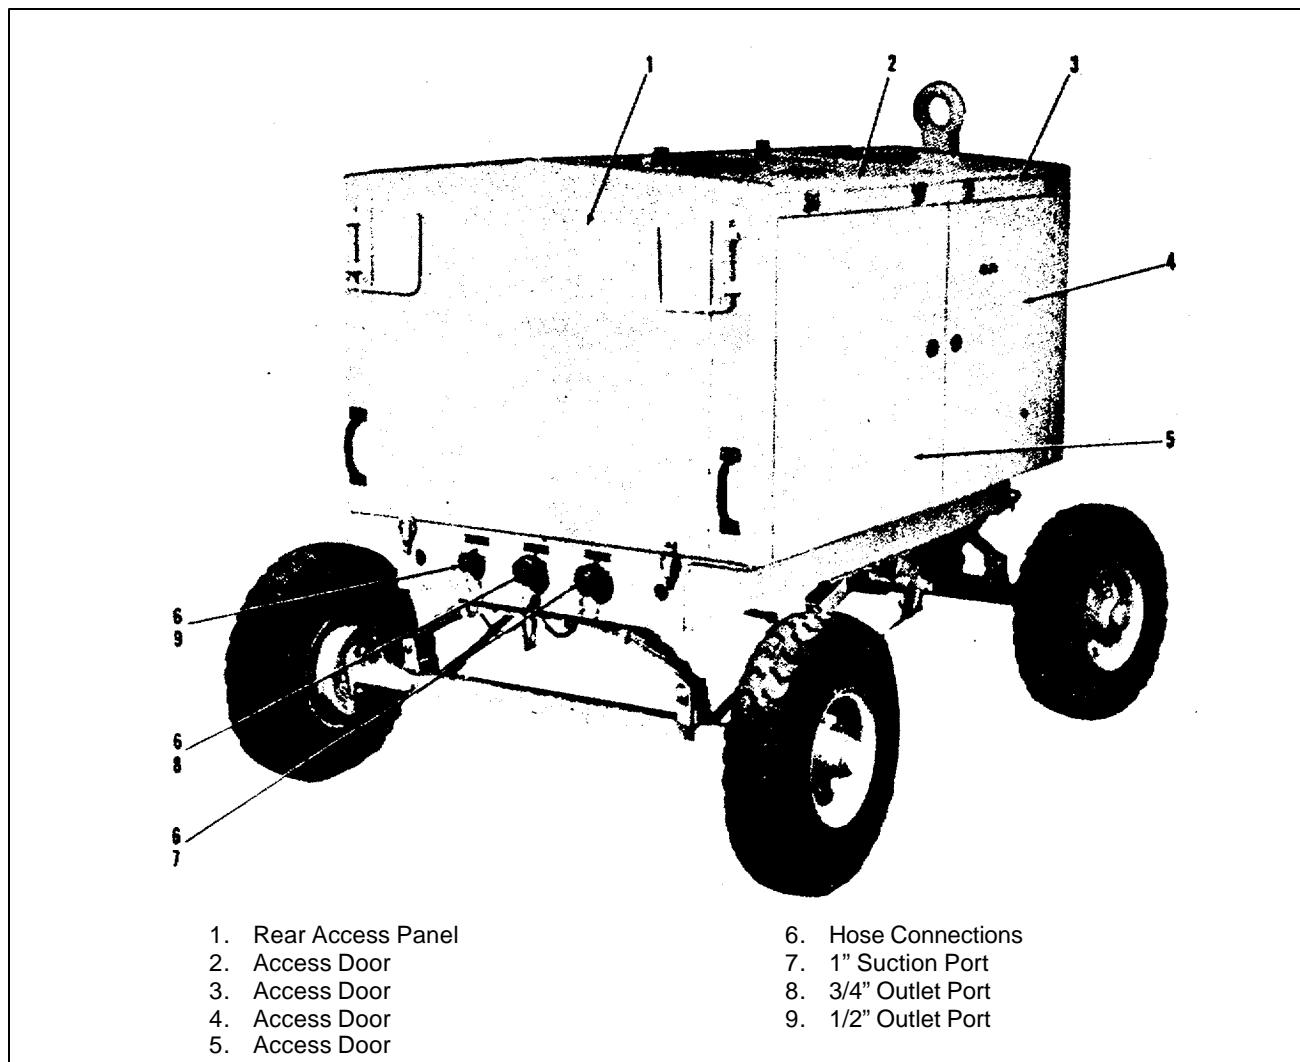
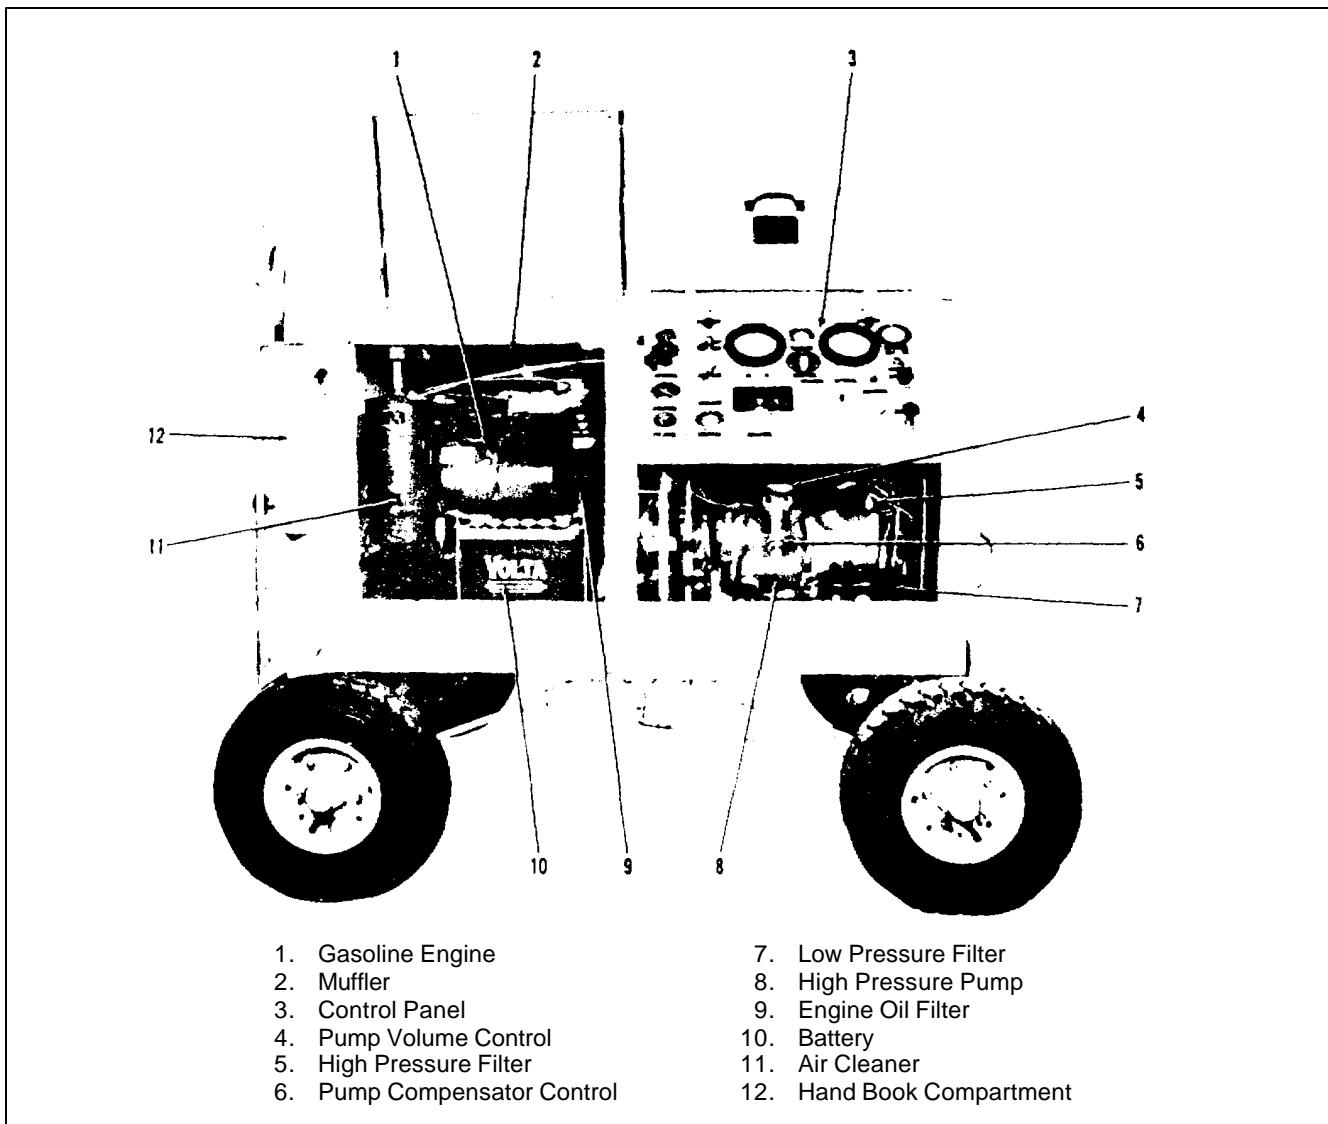
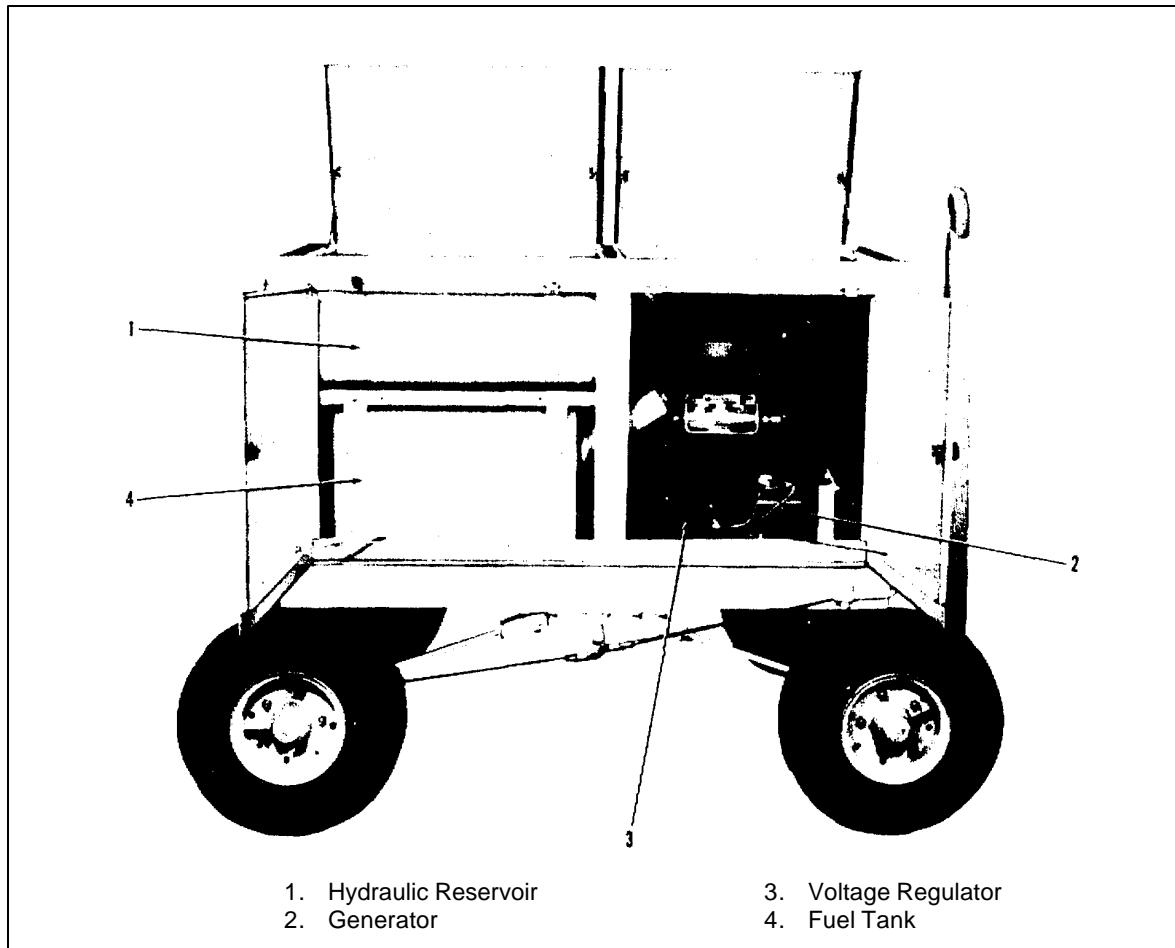
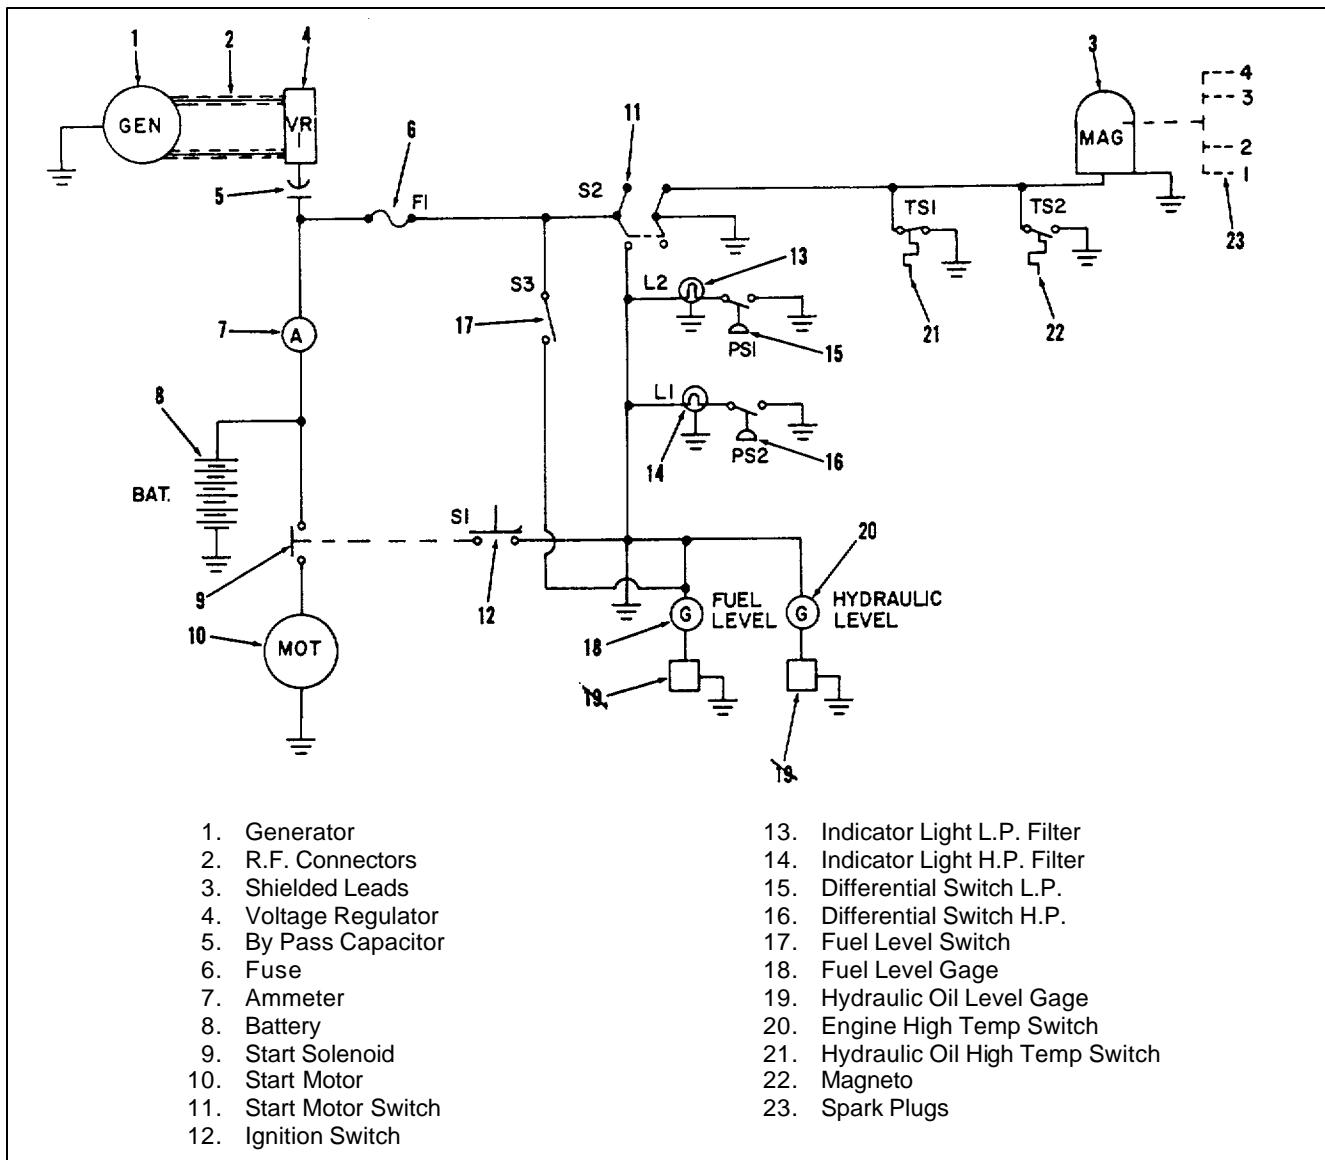

Figure 1-2. Test Stand, Right Rear View
Figure 1-3. Test Stand - Left Side
Figure 1-4. Test Stand - Right Side
Figure 1-5. Electrical Schematic
1-7. MAJOR ASSEMBLIES. The Test Stand consists of the following major assemblies and components: Housing Assembly (1, figure 1-1), Running Gear and Frame (7, figure 1-1), Gasoline Engine (1, figure 1-3), High Pressure Pump (8, figure 1-3), Control Panel (3, figure 1-3), High Pressure Filter (5, figure 1-3), Low Pressure Filter (7, figure 1-3), Fuel Tank (4, figure 1-4), Hydraulic Reservoir (1, figure 1-4) and Electrical System (figure 1-5).
compartment (12, figure 1-3) for storage of handbook and engine crank. Door (4, figure 1-1) permits access to top of engine. Door (6, figure 1-1) permits access to control panel, high pressure pump controls, and low pressure filter. Door (2, figure 1-2) permits access to top of hydraulic reservoir. Door (3, figure 1-2) permits access to top of engine. Door (4, figure 1-2) permits access to right side of engine, engine generator, voltage regulator, and fuel fill neck of fuel tank. Door (5, figure 1-2) permits access to hydraulic reservoir and fuel tank. A removable front panel (2, figure 1-1) permits access to the front of the engine and contains a hole for insertion of engine crank. A removable rear panel (1, figure 1-2) permits access to components at rear of unit including the high pressure filter.
incorporating tie rods and king pins, is used to provide positive steering. Rear wheels are equipped with hand lever (11, figure 1-1) operated mechanical parking brakes which hold the Test Stand in fixed position during testing operations. The trailer rolls on four steel wheels equipped with 6.00 x 9 inch, 6 ply pneumatic tires. Provisions are made for attaching lifting or tiedown rings to the trailer frame. Bulkhead fittings are installed in the rear frame for hose connections (6, figure 1-2) for testing operations. Each hose connection fitting is equipped with a protective cap.
1-10. GASOLINE ENGINE. The gasoline engine (1, figure 1-3) is installed at the front of the Test Stand and is accessible from either side, top, or front of the housing. The engine is a four cylinder, four cycle, V type, air cooled unit. Horsepower varies with rpm; ranging from 24.5 at 1400 rpm to 36.0 hp at 2400 rpm.
Engine speed is held automatically at the selected rpm by a centrifugal flyball governor which adjusts the throttle to compensate for changes in engine load. A 12 volt battery (10, figure 1-3) is employed to power the starting system. The engine may also be started by a hand crank.
a. Air Cleaner. The engine air cleaner (11, figure 1-3) filters the air entering the carburetor, prolonging the life of the engine. The air cleaner is equipped with a pre-cleaner at the top.
b. Engine Oil Filter. The engine oil filter (9, figure 1-3) is a disposable cartridge type unit built to MIL-E-11275 specifications.
c. Muffler. A muffler (2, figure 1-3) is provided at the top of the engine for noise and exhaust control.
1-11. HIGH PRESSURE PUMP. The high pressure pump (8, figure 1-3) is bracket mounted to the rear of the engine and driven by it through a flexible coupling. The pump incorporates the following features: a fluid volume control (4, figure 1-3) providing regulation of pump delivery from 0 to 10 gpm at operating pressures ranging from 800 to 5000 psi; an adjustable pressure compensator (6, figure 1-3) which, at a predetermined pressure, reduces pump delivery to the minimum requirement to maintain pressure in the system, and a compensator shut-off valve which permits isolating the compensator from the system when adjusting the high pressure relief valve.
1-12. CONTROL PANEL. The control panel (3, figure 1-3) contains all switches, gages, fault indicators, and controls used in the operation of the Test Stand.
1-13. HIGH PRESSURE FILTER. The high pressure filter (5, figure 1-3) is placed in the line between the high pressure pump and the relief valve assembly to micronically filter the hydraulic fluid coming from the high pressure pump. The filter uses a replaceable type element AN6235-4A.
1-14. LOW PRESSURE FILTER. The low pressure filter (7, figure 1-3) is located in the suction line between the manifold and pressure pump to micronically filter the hydraulic fluid from the Test Stand and aircraft reservoirs. It contains a replaceable type element AN6236-3.
1-15. FUEL TANK. The fuel tank (4, figure 1-4) will hold 13 gallons of fuel conforming to Military Specifications MIL-G-3056 or MIL-F-5572. The tank is equipped with strainer in the fill neck, a drain plug in the bottom, and a fuel level sending unit.
1-16. HYDRAULIC RESERVOIR. The hydraulic reservoir (1, figure 1-4) has a maximum capacity of 28 gallons. A reservoir shutoff valve is provided for isolating the Test Stand reservoir
1-17. ELECTRICAL SYSTEM. Major components of the electrical system are: 12 volt battery (10, figure 1-3), generator (2, figure 1-4), and voltage regulator (3, figure 1-4). The electrical system is shown schematically in figure 1-5.
- a. All gages and controls on control panel (3, figure 1-3) are undamaged and securely mounted.
2-4. BATTERY. The battery (10, figure 1-3) is shipped dry charged and must be filled with electrolyte and charged before use. Observe the following procedures:
2-5. FUEL SYSTEM. Open access door (4, figure 1-2) and remove filler cap from neck of fuel tank (4, figure 1-4). Fill tank with fuel conforming to Military Specification MIL-F-5572 or MIL-G-3056, grade 70-75. Capacity of tank is 13 gallons.
- a. Open access door (2, figure 1-2) and remove rear access panel (1). Open drain valve on bottom of reservoir (1, figure 1-4) to drain preservative fluid from system.
- d. Open bleed cock on top of low pressure filter (7, figure 1-3). When hydraulic fluid overflows and all traces of air are removed, close bleed cock.
- e. Remove dust cap from suction inlet (7, figure 1-2) and unseat seal in fitting until solid fluid flow indicates all traces of air are removed. Reseat seal in suction fitting and replace dust cap.
- f. Connect 1/2 inch hose to 1/2 inch outlet (9, figure 1-2).
- d. Drain high pressure pump (8, figure 1-3) at drain plug located at lower right hand corner of pump case. Replace drain plug and refill pump with preservative hydraulic oil, Military Specification MIL-O-6083A.
e. Remove protective caps from pressure and suction hose connections (6, figure 1-2). Remove protective caps from connection hoses. Connect hose from pressure outlet port (8, figure 1-2) (3/4 inch) or pressure outlet port (9) (1/2 inch) to corresponding outlet on aircraft to be tested. Connect second hose to suction port (7) and to corresponding outlet on aircraft to be tested.